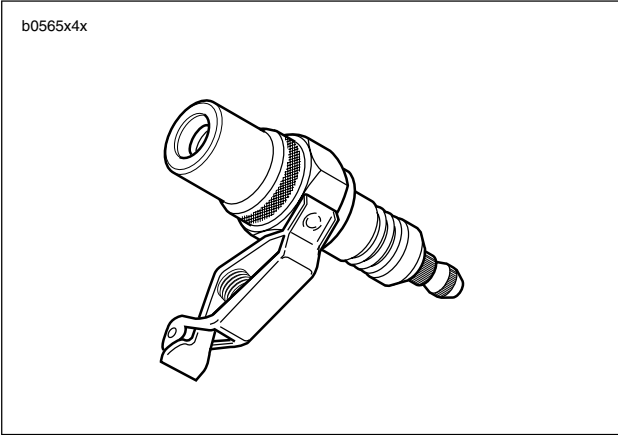

Figure 4-29. Spark Tester (Part No. HD-26792)
1. See Figure 4-29. A SPARK TESTER (Part No. HD-26792) must be used to verify adequate secondary voltage (25,000 volts) at the spark plug.